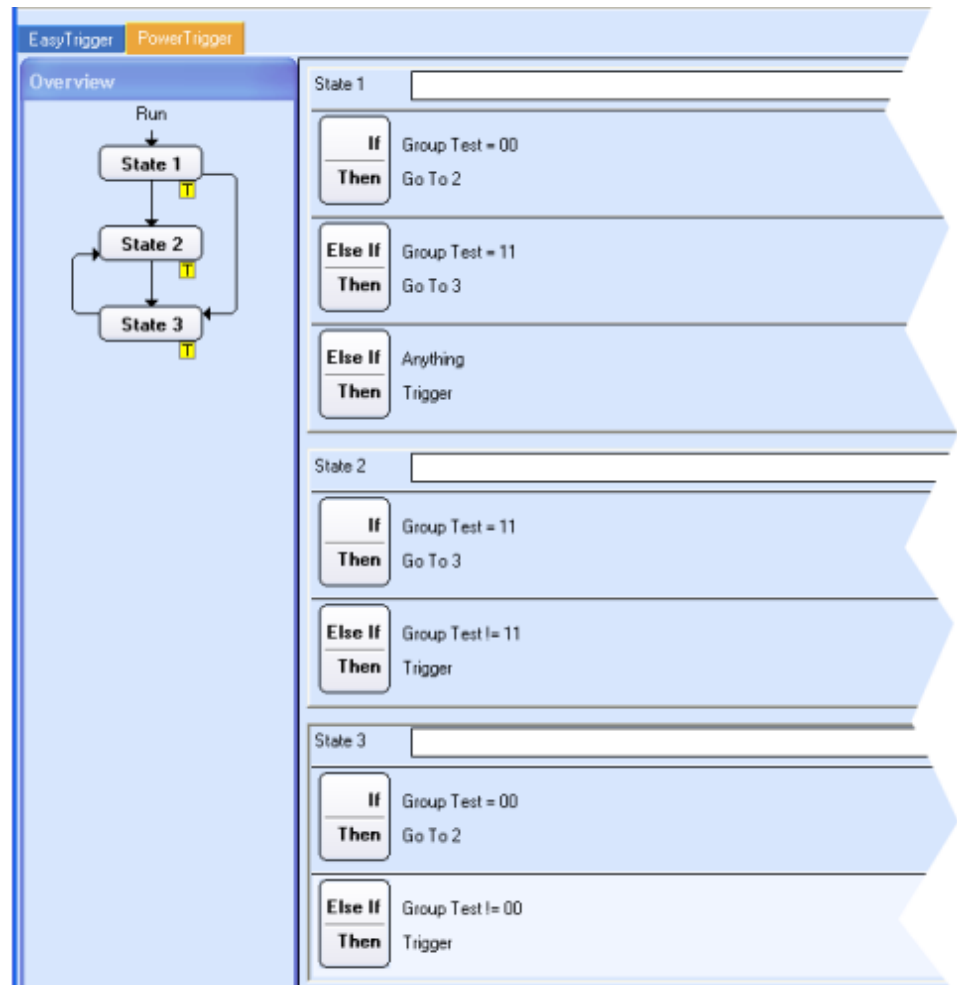

Figure 2: Set the trigger states
8. Open the LA Trigger window and select the Power Trigger tab. Set up three states as shown. (See Figure 2.)